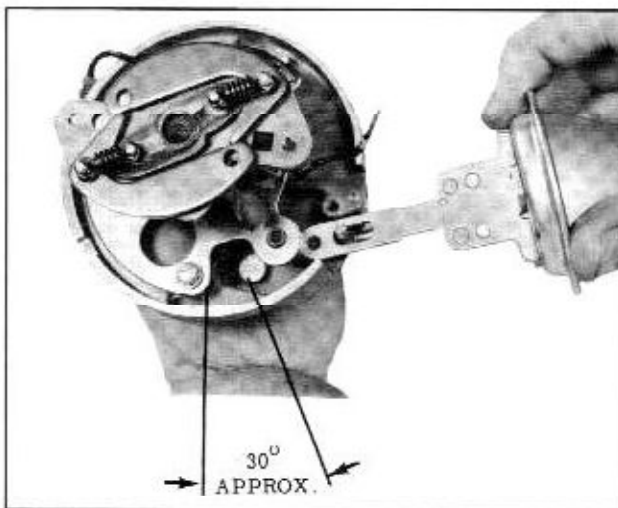

Fig. 13-63 Vacuum Advance Removal
5. Pull the vacuum advance unit out from the distributor so that the breaker plate is rotated approximately 30° counterclockwise. Holding the breaker plate in this position, disengage the vacuum advance unit rod from the breaker plate and remove vacuum advance unit. (Fig. 13-63)